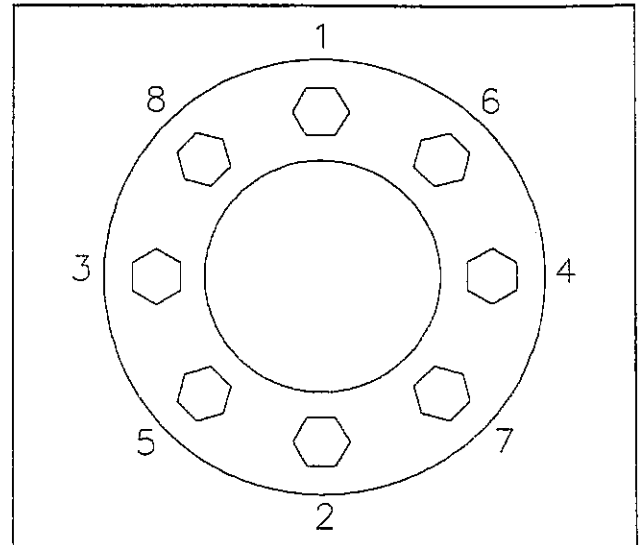

Figure 4-11 Lug Nut Tightening Sequence
b. Tighten lug nuts in three stages using a cross star pattern (see Figure 4-11). 5/8" flanged wheel nuts are torqued to 275-325 foot-pounds, and 5/8" swiveling flange wheel nuts are torqued to 250-300 foot-pounds.